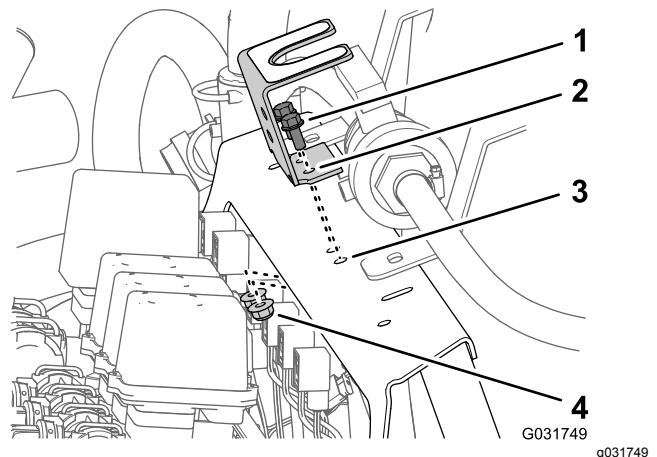

Figure 38
4. Remove the 2 flange-head bolts (5/16 x 3/4 inch), and 2 flange locknuts (3/8 inch) that secure the mounting bracket for the ball valve to the manifold mount, and separate the bracket from the mount (Figure 38).